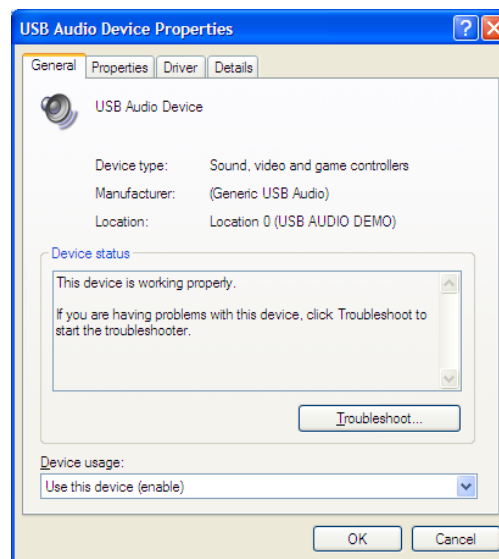

Figure 10. USB Audio Device properties dialog
4. Double-click on the USB Audio Device icon, and the device properties dialog appears as shown in Figure 10.